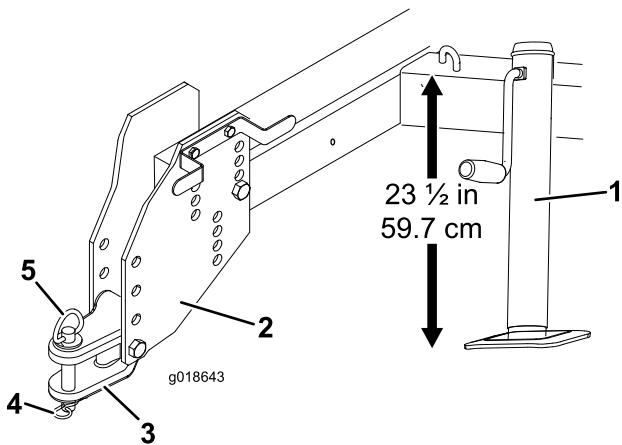

Figure 3
- Adjust the jack so that the distance from the top of the frame to the ground is approximately 59.7 cm (23-1/2 inches) (Figure 3).
- Remove the bolts and locknuts securing the hitch tongue to the hitch plates (Figure 3).
6. Secure the hitch tongue to the prime mover hitch with the hitch pin and lynch pin (Figure 3).